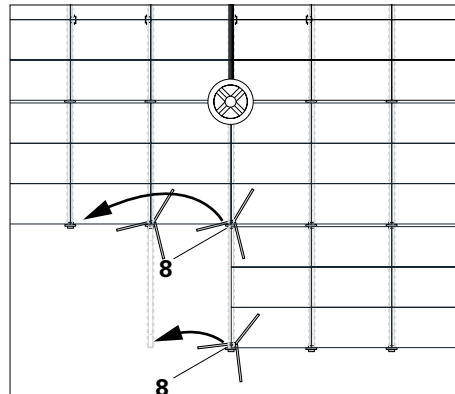

Fig. A1.19
Remove and re-position the tripods (8) only when the bay is completely covered with panels and site personnel wearing safety equipment are no longer in the area of risk. (Fig. A1.19)